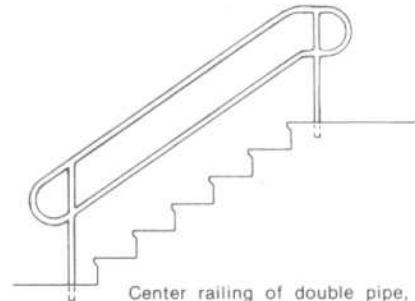

**Fig. 11**
*Note:* A number of codes require that railings have a level extension beyond the nosings at the floors as indicated in Fig. 11 by dashed lines. This applies to both wall and center railings.